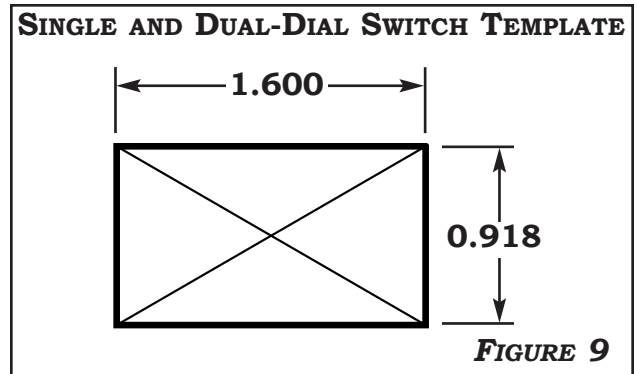

FIGURE 9
- A. USE THE SUPPLIED TEMPLATE (**FIGURE 9**) AND MARK THE SWITCH LOCATION. TAKE CARE TO PROPERLY ORIENT THE SWITCH.